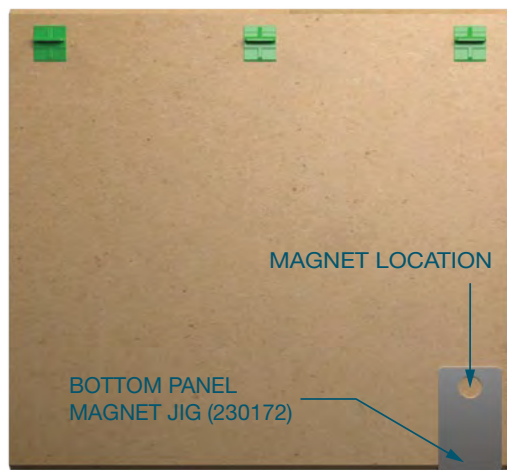

Figure 13
- 02** Slide the Non-bottom Panel Magnet Jig (230173) underneath the bottom of the panel (Figure 13).